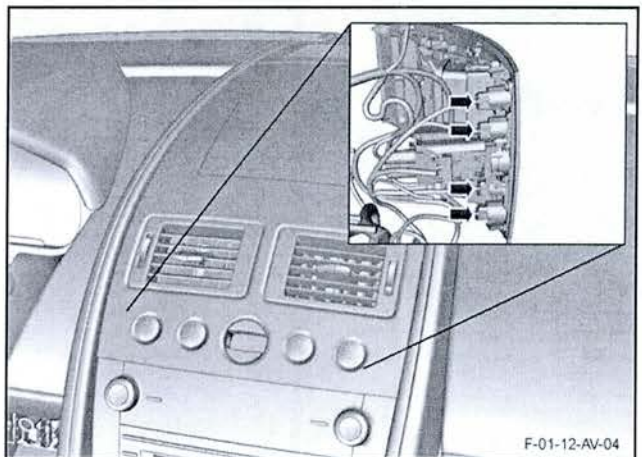

Figure 3
4. Disconnect the electrical connectors from each of the four transmission control switches (refer to Figure 3).